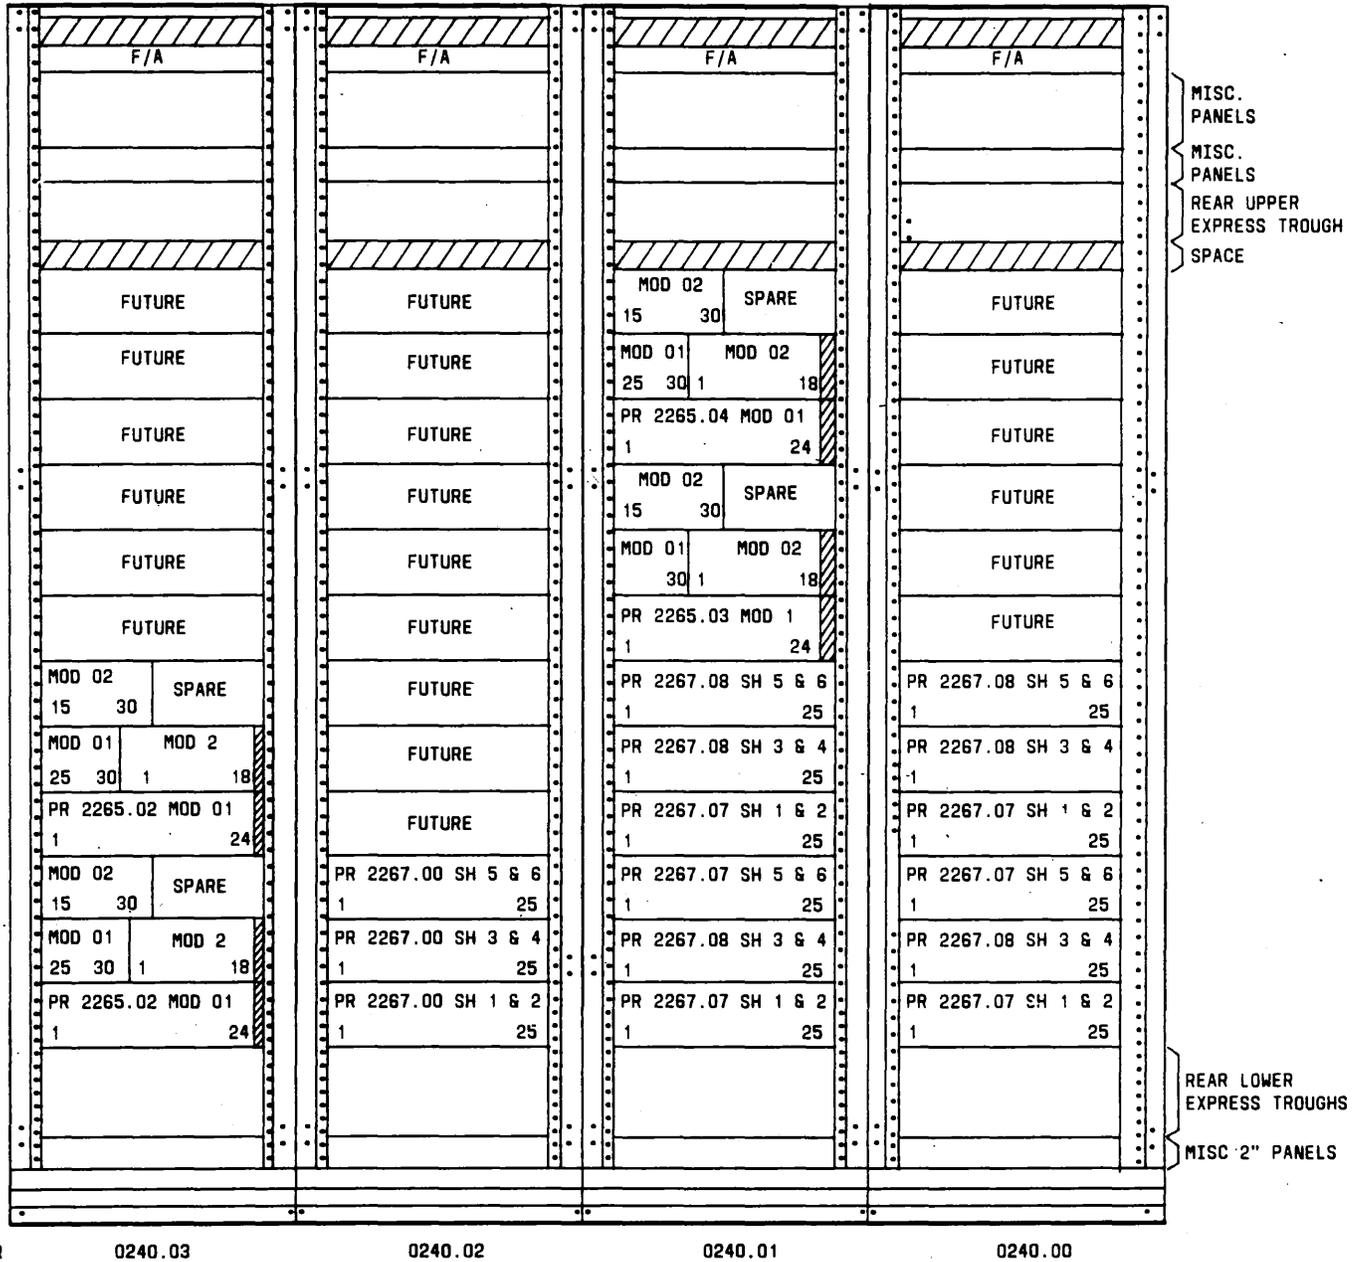
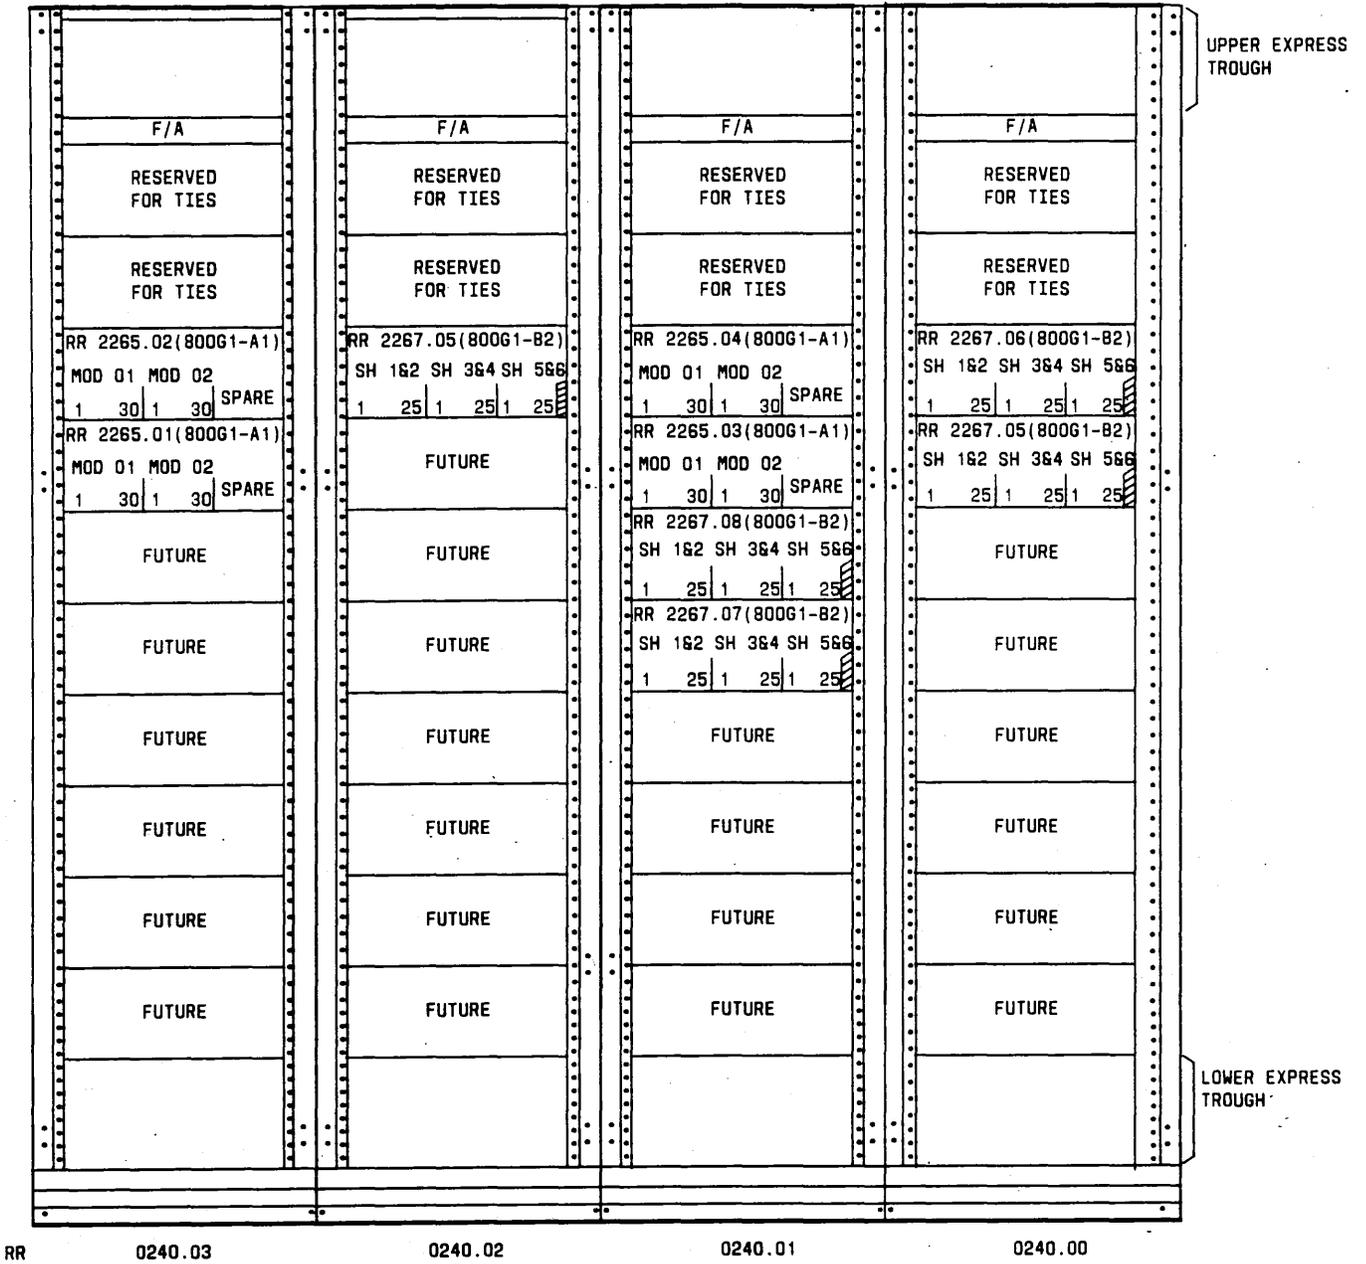

Fig. 4—Front Equipment Layout Prior to Transition (Old Panels)
Fig. 5—Front Equipment Layout After Transition (New Panels)
4.02 Before starting the actual replacement, it is important to develop a new front equipment layout for the DSX. The new layout shows the new locations for equipment to reterminate on the new 800-series panels. Examples of front equipment layouts for a DSX undergoing replacement are shown in Fig. 4 and 5. The layout on the old type panels before the replacement is shown in Fig. 4, and the layout on the new panels after the replacement is shown in Fig. 5.
4.04 Since the application shown in Fig. 4 and 5 is for an overhead cable feed, all the terminations have been moved from the old DSX panels on the bottom of the bay to the new 800-series panels at the top of the bay. No terminations are moved between bays. This is done to ensure enough cable length is available. Likewise, all terminations should be moved to the bottom of each bay, if space permits, in an underfloor cable feed application.